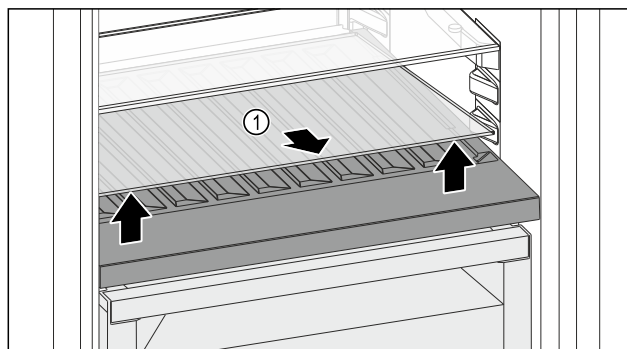

Fig. 124
- Lift the glass shelf Fig. 124 (1) at the front and remove.
- Store the glass shelf Fig. 124 (1) in a safe place outside the appliance.